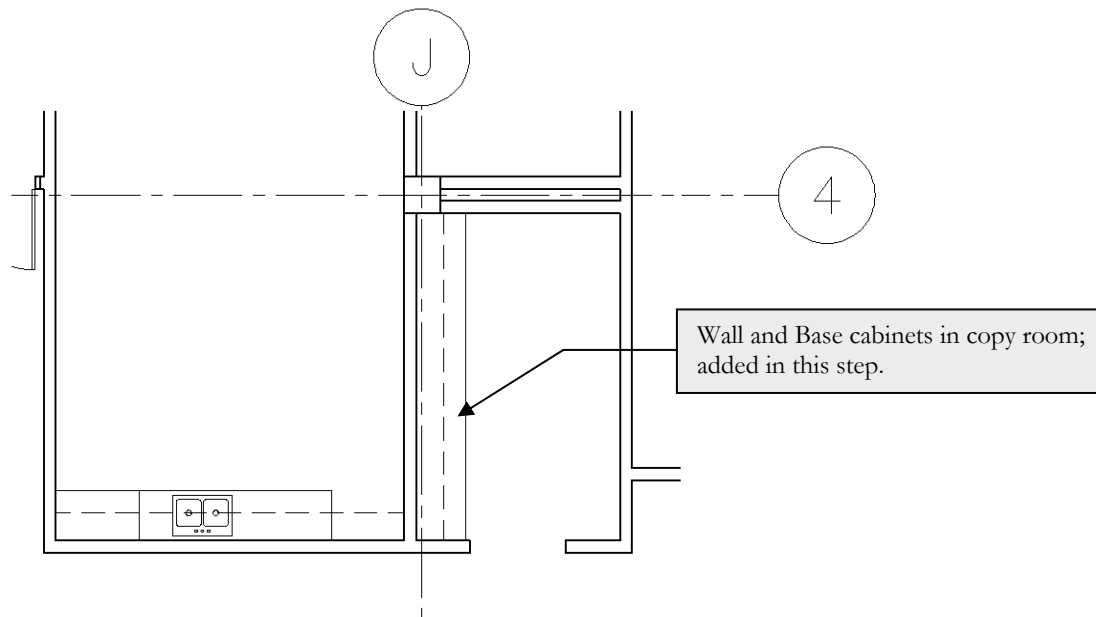

FIGURE 4-2.3 Drawing the copy room casework
4. Draw the cabinets shown in Figure 4-2.3, *plus*: